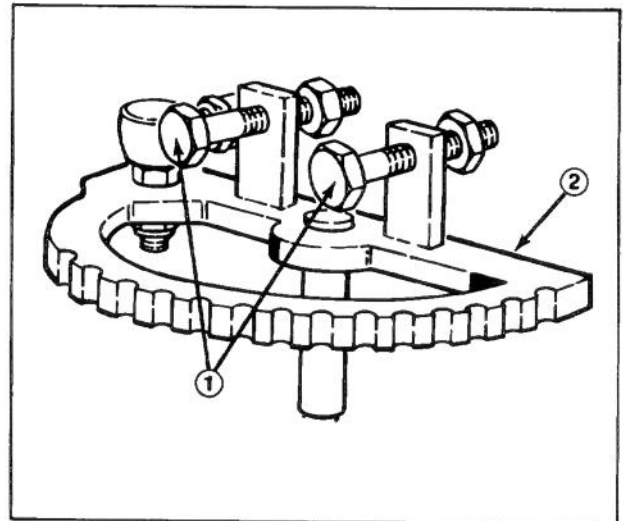

Figure 42
ADJUSTING STEERING STOPS (Fig. 42)
1. Loosen locknuts securing stop screws to tabs on steering sector (Fig. 42).